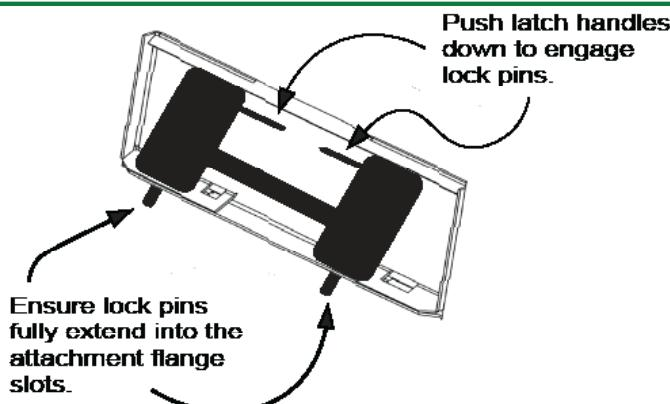

FIGURE 3.2B QUICK ATTACH COUPLER LOCKED TO ATTACHMENT PLATE
4. Activate your skid steer's lever lock switch to engage and lock the pins into the flange slots of the grinder's attachment plate. If your skid steer does not have this switch, push the latch handles down until you can see the lock pins extend into the attachment flange as shown in Figure 3.2b below.